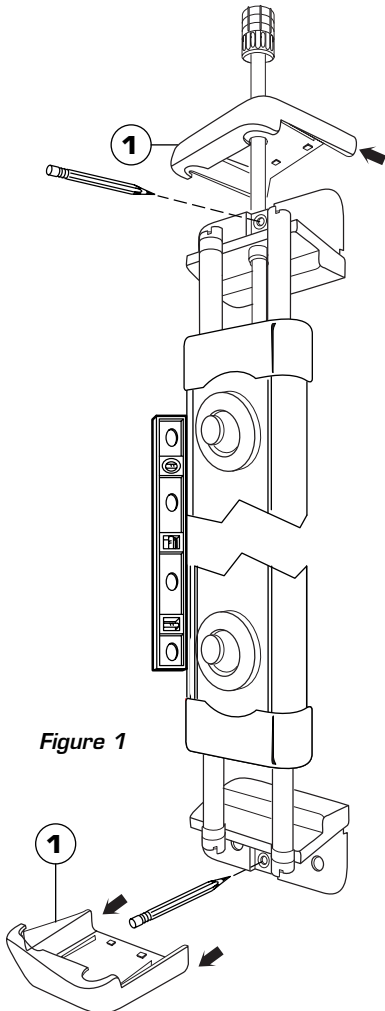

Figure 1
- **Figure 1.** Hold Vertispa unit in desired location. Refer to roughing-in dimensions.